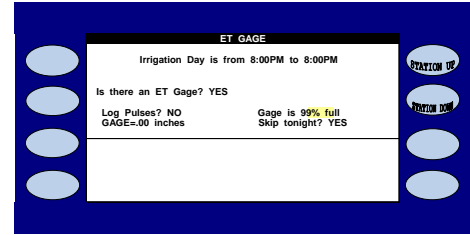

Figure 5.7
8.  Press the blue **ARROW** keys to move the cursor to the GAGE IS 99% FULL setting (Figure 5.7).